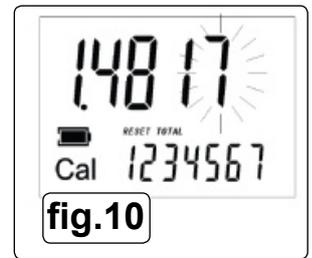

fig.10
5.4.4. Press RESET to set digit values (from right to left) (fig.10).